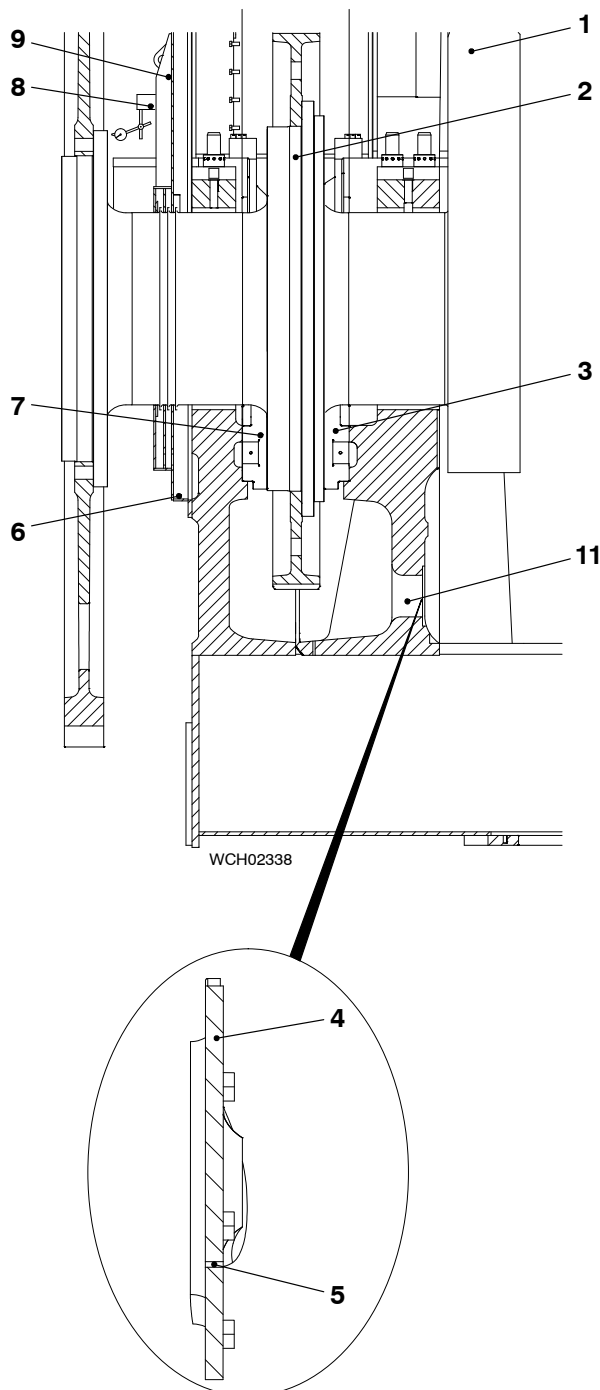

Fig. 1
- 3) Put the dial gauge (8, Fig. 1) in position on the oil baffle (top part) (9) and record the value.
- 4) Remove the dial gauge (8).
- 7) Put the dial gauge (8) in position on the oil baffle (top part) (9) and record the value.
- 8) Remove the dial gauge (8).